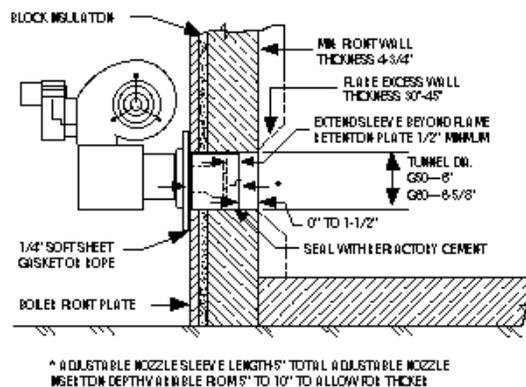
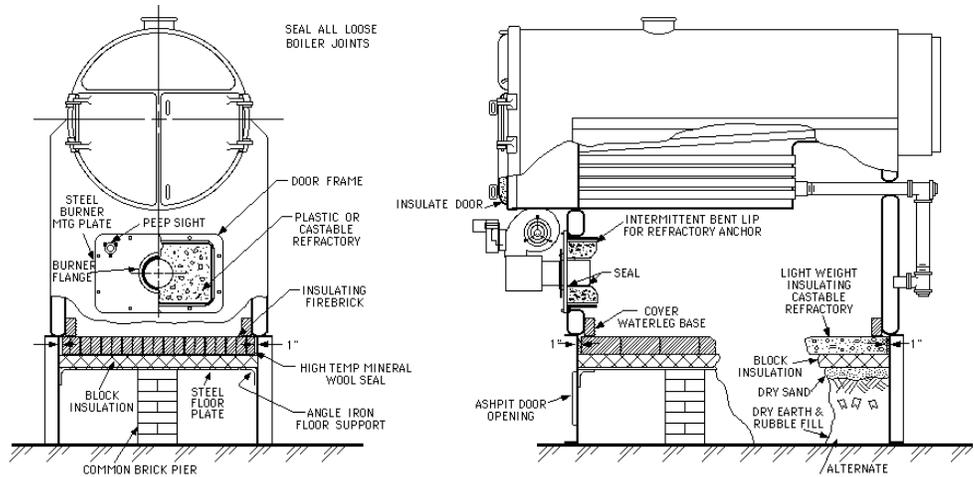

Figure 4: Construction at Burner Entrance
Figure 8: Firing Door Installation in Three Pass Boiler
- The burner is equipped with a mounting flange for direct attachment to the boiler front, and mounting brackets for legs. Use both if necessary for rigid installation. The burner nozzle must not extend into the combustion chamber. It should be sealed into the opening as shown in Figure 4.
- ⚠ WARNING: Burner cabinet must be mounted in orientation in Figures 4 and 7. Any other mountings may cause a dangerous condition, and will void burner warranty and agency approvals. Non-standard arrangements may be available for some models. Consult factory for details if required.**
□ Firing door installations will usually entail removal of the grates. Figure 8 shows a typical installation. A steel plate floor can be supported from the grate lugs, if suitable. In any case, the floor must be rigid enough to prevent sagging, being supported by brick piers as necessary.
□ The burner mounting in the door must be rigid and refractory lined as shown in Figure 8. The burner nozzle must not protrude directly into the combustion chamber. The refractory liner must be flush with or extend beyond the burner face as shown in Figure 4. A sheet metal rim should encase the refractory up to the inside of the boiler wall. It should be intermittently bent inward to retain the refractory or other means of anchoring should be provided.